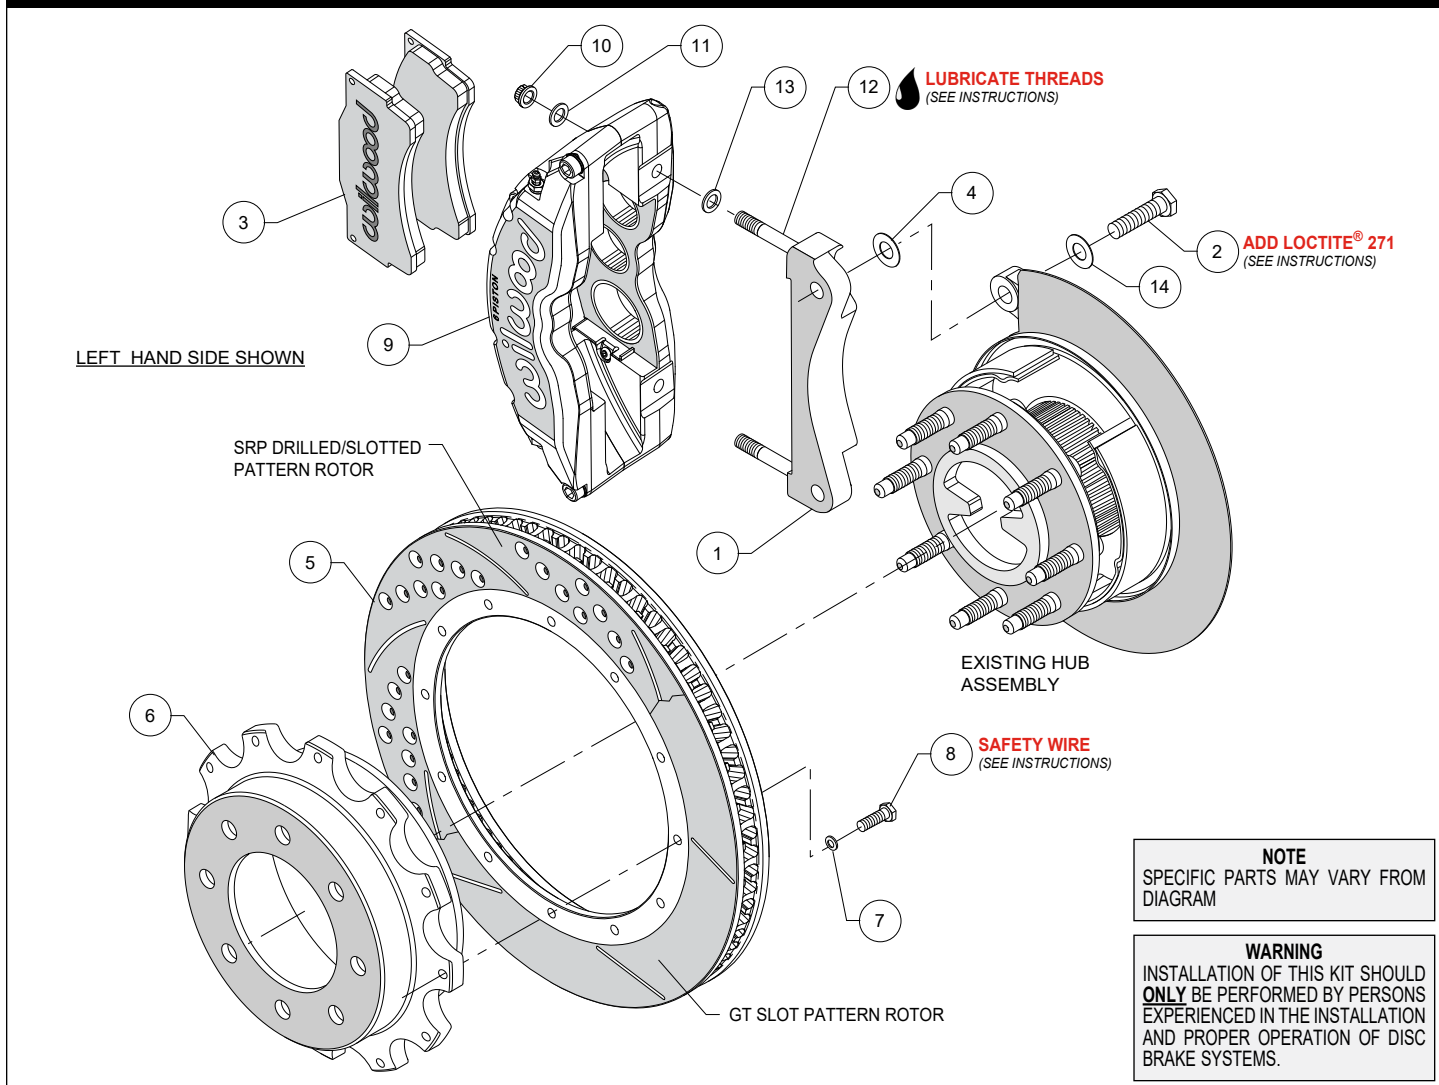

Figure 1. Typical Installation Configuration
**NOTE:** Numbers in parenthesis refer to the parts list and Figure 1 on the preceding pages.
- The caliper mount bracket assembly (1) should be installed first with clean, dry threads on the mounting bolts (2). Install the bracket by sliding bolt (2) through washer (14) from the rear side of the hub through the OEM caliper mounting bracket ears, then through an additional shim washer (4) and into the bracket (1). The bracket must tighten squarely against the outboard side of the caliper mount bosses on the upright. Inspect for interference from casting irregularities, machining ridges, burrs, etc. Use one shim (4) between the bracket and upright during initial trial fitting. Later, after the caliper, pad, and rotor alignment have been checked, and any necessary shims have been put in place, the mounting bolt threads (2) should be coated with red *Loctite*® 271 and torqued to 95 ft-lbs.
- Attach the rotor (5) to the hat (6) using bolts (8) and washers (7) as shown in Figure 1. Using an alternating sequence, torque bolts- to 25 ft-lb. Bolts must be safety wired using standard 0.032 inch diameter stainless steel safety wire as shown in Figure 3. Please refer to Wilwood's data sheet DS-386 (available at [www.wilwood.com/Pdf/DataSheets/ds386.pdf](http://www.wilwood.com/Pdf/DataSheets/ds386.pdf)) for complete safety wire installation instructions.
- Lubricate caliper mounting studs and nuts with lightweight oil. Install one shim (13) over each stud (12) on the radial mount bracket (1). Slide the caliper (9) in place over the studs and rotor and install the washers (11) [up to 4 may be required on each side to keep the lock nut from bottoming out on the stud], and lock nut (10) to hold the caliper in place. The caliper bleed screws should be pointing up. Snug the lock nuts (10) and check that the rotor (5) is centered in the caliper (9). Add or subtract .029" shims (4) as necessary between the caliper mount bracket and the caliper mount bosses on the upright assembly to center the caliper.
- Remove the two caliper center bridge pad retainer bolts, nuts, and tubes from the caliper. Slide the brake pads (3) into place. They should install easily without interference. Check that the outside radius of the brake pad is aligned with the outside diameter radius of the rotor face. Add or subtract shims (13) between the caliper and mount bracket to gain the proper alignment. Reinstall the two center bridge pad retainer tubes, bolts, and lock nuts. The locknut should be snug without play in the bolt or tube. Be cautious not to over tighten.
- Once all clearances have been checked, remove the wheel, caliper and rotor from the axle flange. Secure the caliper mounting bracket (1) to the axle flange body with bolts (2) while coating the threads with red *Loctite*® 271. Torque the bolts to 75 ft-lbs. Reinstall the rotor and again use several
- lug nuts to hold it in place. Reinstall the caliper, torque the caliper nuts (10) to 47 ft-lbs.